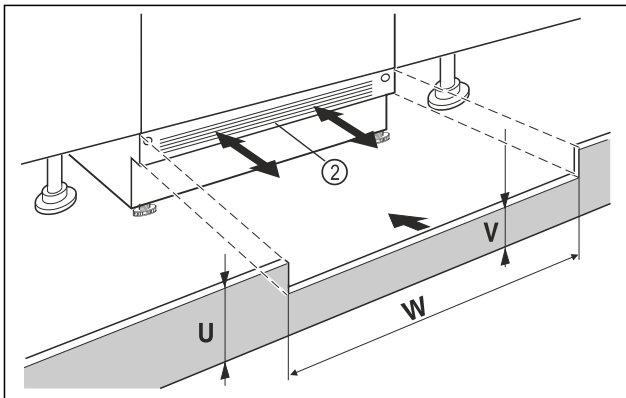

Fig. 16 Example illustration
- ▶ Put on the appliance base cover Fig. 16 (2) but do not fix it yet.
- ▶ If the base cover Fig. 16 (2) is visible, pull it so far forward that the front edge of the ventilation grille and the unit base cover form one level.
- ▶ If the base cover is concealed Fig. 16 (2), push it all the way back.
- ▶ Ensure that the ventilation slots are completely free: If necessary, cut the height of the unit base cover Fig. 16 (U) to size!
- ▶ Adjust the bar height Fig. 16 (V) under the appliance base cover Fig. 16 (2) along the recess width Fig. 16 (W).